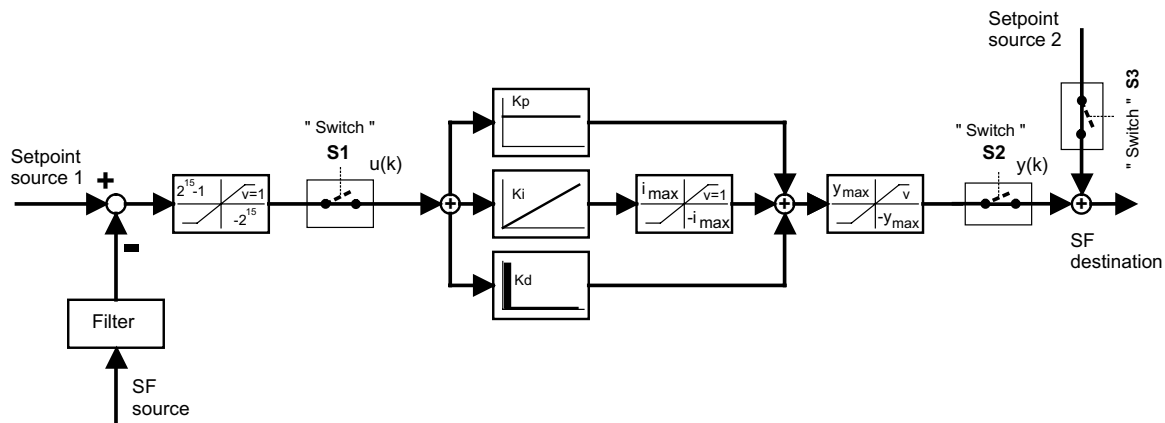

Figure 25: Principle of "SF REGL"
"SF REGL" comprises the PID controller structure shown in Figure 25. The configuration of all controller functions is possible within the scope of SF commanding "START". Switch operation (cf. S1 .. S3 according to Figure 25) can be either by means of SF commanding or binary input signals (E1..E3). Further it is possible to synchronize the controller clock with an external binary signal (E1/E4¹⁾). The selection is made by the operating mode (SFKMD-BA; cf. Section 3.7.2.2):
- *"Without binary controller switch-over"*: The switches S1 .. S3 of the controller configuration according to Figure 25 can be operated exclusively by SF commanding.
- *"With binary controller switch-over"*: The switches S1 .. S3 of the controller configuration according to Figure 25 can be operated by binary input E1 .. E3.
- *"Limitation + amplification"*: Before or after the summation point with command value source2 (SP).
- *"Delete integrator"*: If this mode is selected (cf. Section 3.7.2.2, SFKMD-BA) the I component is deleted automatically on interrupting the control circuit by opening the switch S2 (cf. Figure 25, S2 = 0).
- Meaning: Bit mask for selecting the controller switches S1 .. S3 (cf. Figure 25), if in SFKMD-BA Bit 0 = 0.